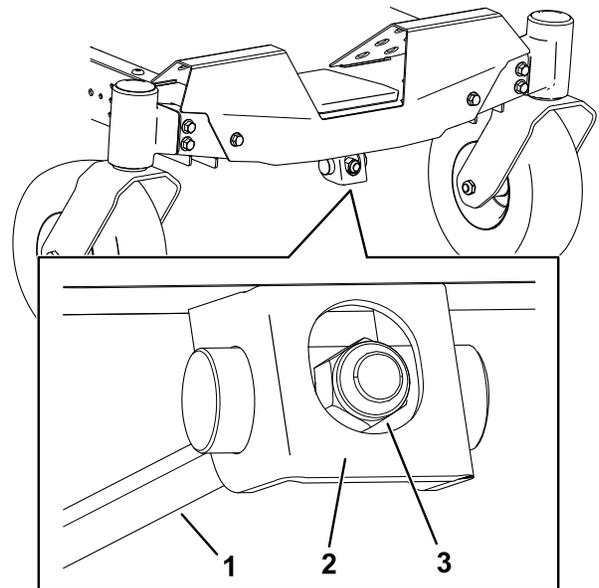

Figure 63
- Rotate the adjustment nut in the front of the mower (Figure 63).